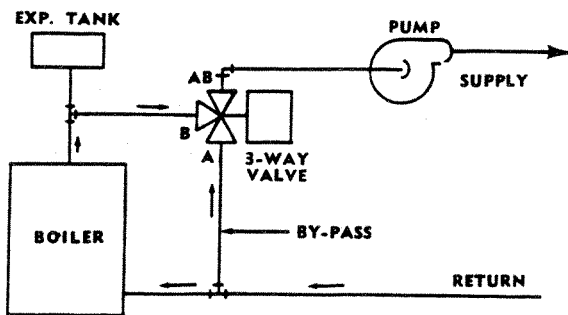

FIG. 4
D. To vary the temperature of primary or zone supply water where the main heat exchanger, such as a boiler, delivers water at a constant temperature. Return water from the system or zone is mixed with water from the main exchanger to obtain the desired supply water temperature. This supply water temperature is often reset from outdoor temperature. See Fig. 4.